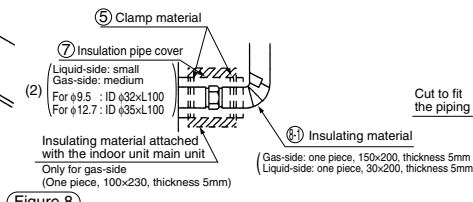

Figure 8
- (1) Connect the liquid and gas piping to the indoor unit main unit. (Figure 8)
- (2) Wrap the piping connections with the attached insulation pipe cover (medium and small) ⑦ and fasten either end with the attached clamp material ⑤. Next, put the attached insulating material ⑧. Wrap gas-side piping with the insulating material attached the indoor unit on top of the insulation pipe cover wrapped on the piping connections. (For the KDU50M60VE, there are two types of Insulation pipe covers (medium) for the gas pipe connection. Select the one appropriate for the piping size.)